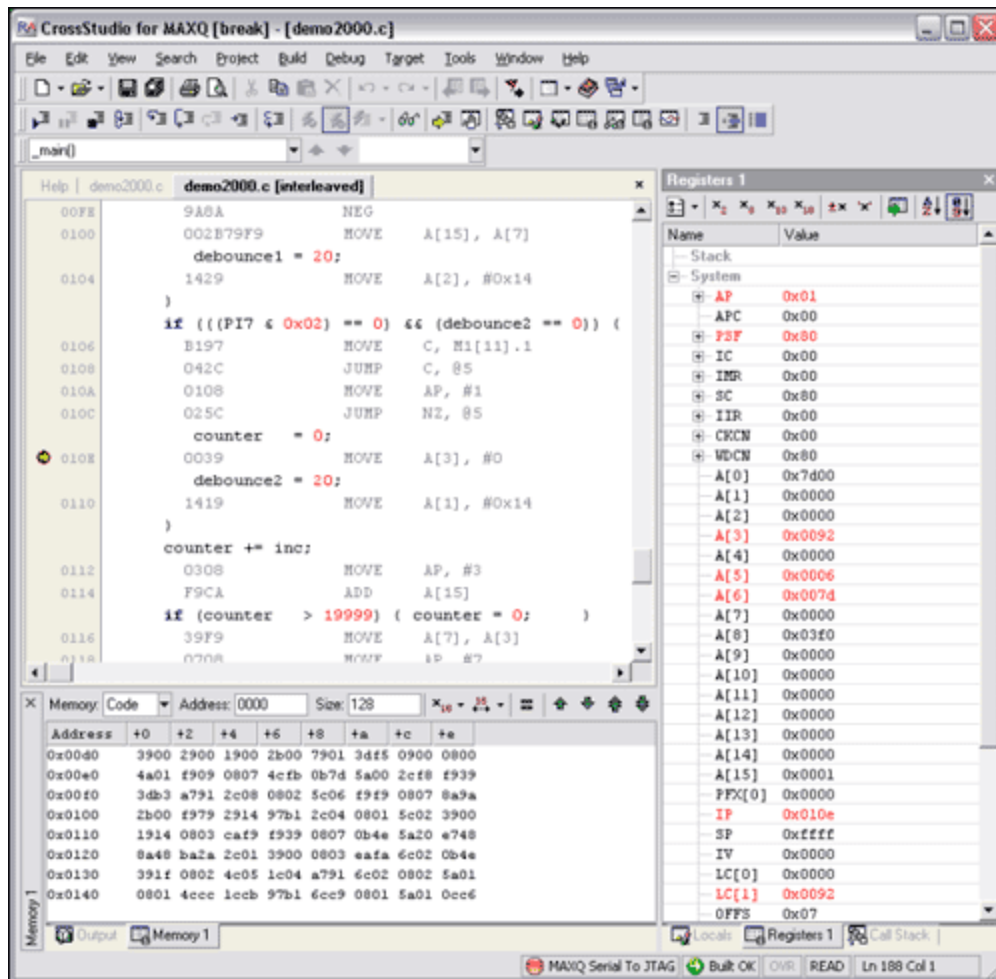

Figure 8. Debugging in interleaved mode.
- Interleaved Mode (Control+T, I) (**Figure 8**) shows both C and assembly code in the same window.